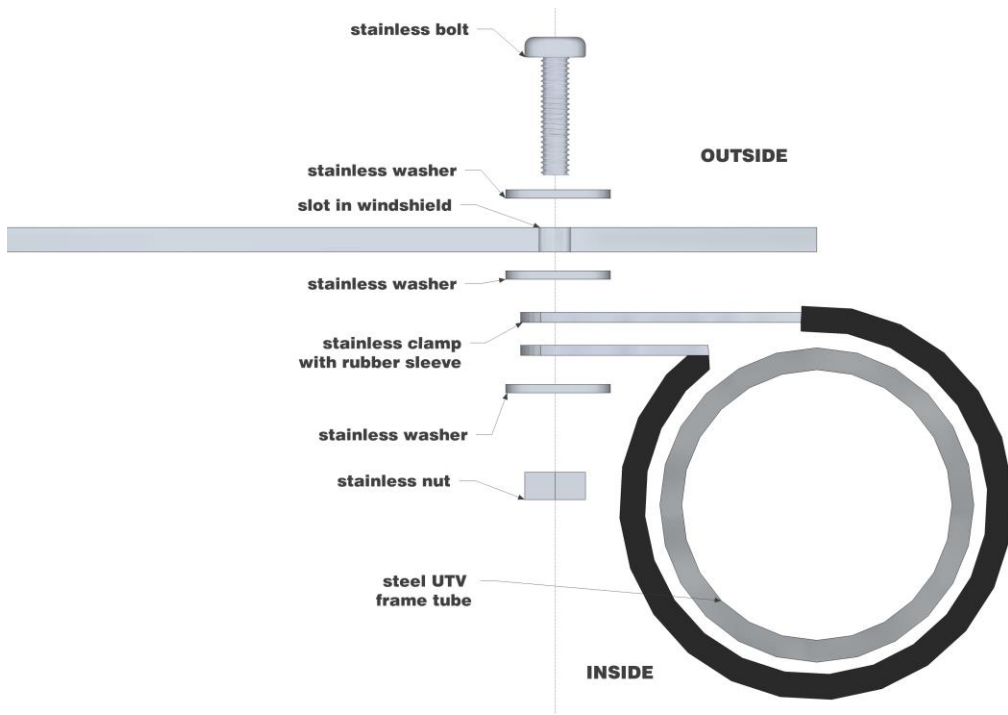

fig.2
4. Now you are ready to place the windshield on your vehicle. With help, place the windshield up on the hood. The rubber gasket should temporarily hold it up, but be careful. The bent angle at the top of the windshield should go underneath the top bar of the roll cage. Near the top slot in the top windshield, take a 1-3/4" clamp and wrap it around the roll cage tube and then run a bolt with a washer through the slot in the windshield from the outside in (see fig. 2). Then place another washer on the bolt after the slot and run the bolt through the holes in the clamp tabs. Add another washer after that and screw on a locknut and tighten until just snug. You may need a Phillips screwdriver to hold the bolt while tightening the locknut. Repeat this step at all slot locations on the windshield.